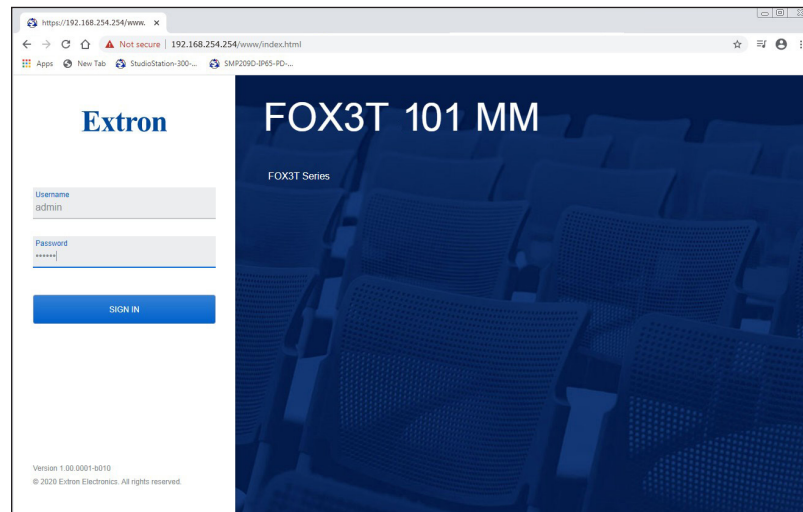

Figure 27. Network Password Prompt
The FOX3 101 internal web page (see figure 27) provides an overall, read-only view of the status of the FOX3 device, with some editable fields for the following categories:
The **Details** panel (see figure 27, 1) displays the device name, a brief product description, the part number, and the serial number. The name can be changed in the **Network Panel** on page 32.
The **Date and Time** panel (see figure 27, ③ on page 30) displays the mode used to set the date and time, current date, and time. There are three options to set the date and time: manual mode, sync to NTP (Network Time Protocol) servers, and sync to the connected PC.
The **Network** panel (see figure 27, 4 on page 30) displays the device name, which can be changed.
The **Passwords** panel (see figure 27, 5) displays whether **Admin** and **User** passwords have been set and provides an option to set administrator or user passwords. It does not display the actual passwords.
The **Firmware** panel (see figure 27, 6 on page 30) displays the current firmware version and the date it was last updated. Update the firmware on the FOX3 101 from this panel (see Software/Firmware Installation on page 21 to download the firmware).
Click the **ABOUT** link (see figure 27, ⑦ on page 30) to open the **About** dialog box to view general information about the FOX3, such as the firmware version, copyright, part number, licenses, patents and web page version. Click the **View the End User License Agreement** link to view the user license.